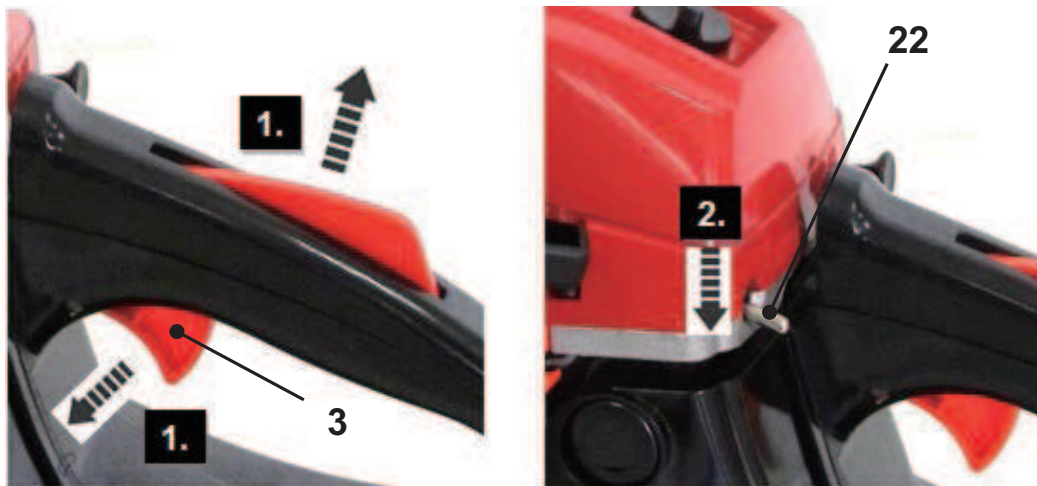

Fig. 24
1. Release the throttle interlock (2) / throttle trigger (3) and let the product run at its idle speed for 10 – 15 seconds.
2. Set the ignition switch (22) to lower position  (STOP position) (Fig. 24).